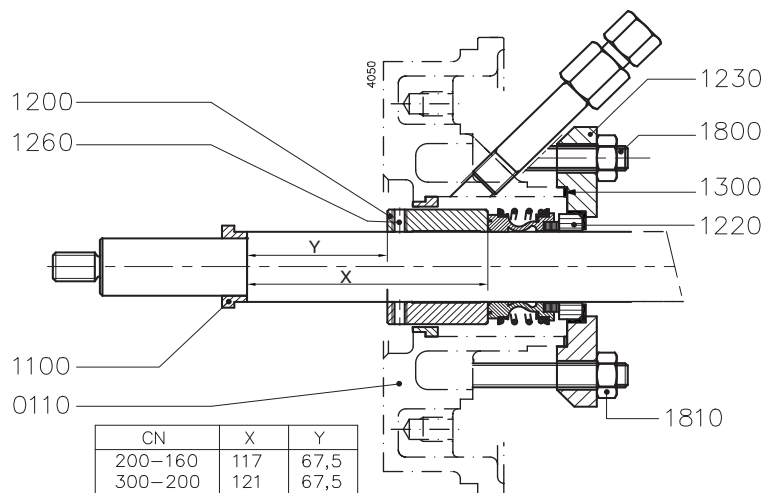

Figure 25: Adjusting the shaft sleeve of 200-160 and 300-200.
- 8 Mount the shaft sleeve (1200). For pump types 200-160 and 300-200 the shaft sleeve (1200) has to be adjusted according to distance Y, see figure 25.